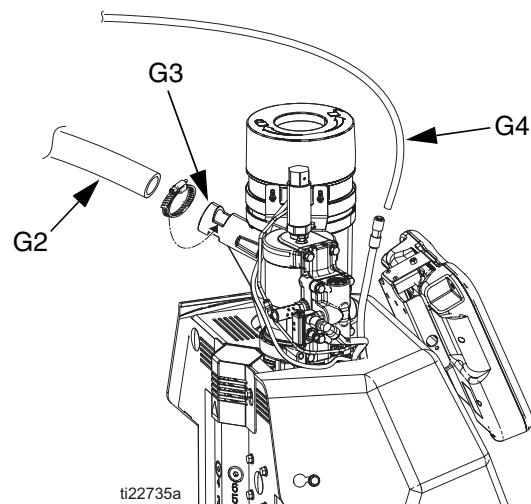

Fig. 9
4. Insert 1.3 in. (33 mm) OD clear vacuum transfer hose (G2) into vacuum transfer funnel (G3) inlet and secure with supplied hose clamp. The hose clamp should be placed over the cutouts in the funnel inlet where it can firmly hold the transfer hose. See FIG. 9.
5. Connect the long supplied 3/8 in. OD air line (G4) to the 3/8 in. push-to-connect fitting on the air line from the system. See FIG. 9.